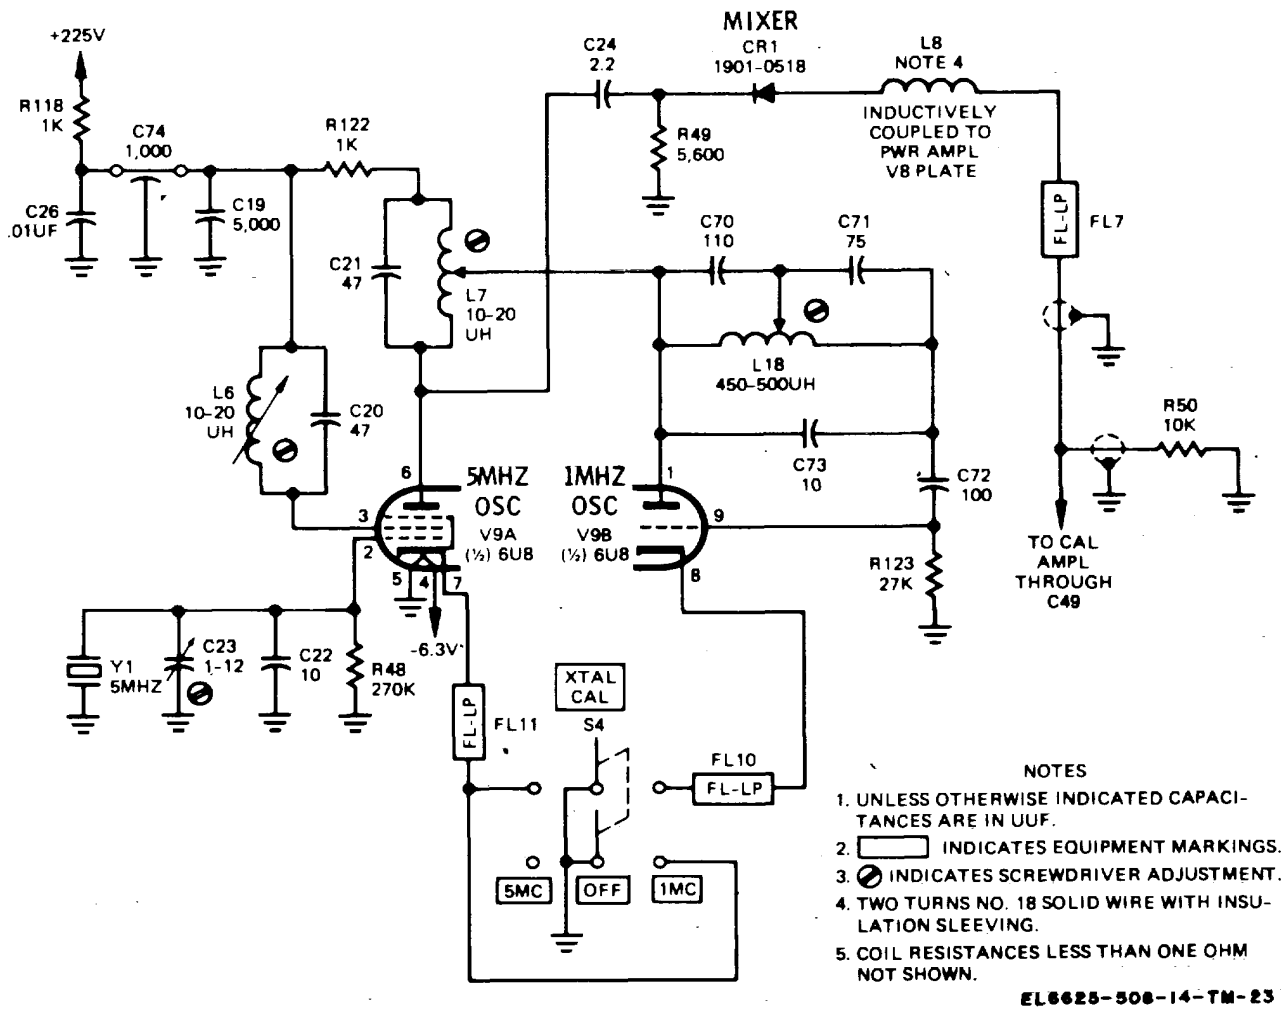

Figure 5-14. Calibrator-oscillator circuit, schematic diagram.
a. The calibrator-oscillator circuit (fig. 5-14) consists of oscillators V9A, V9B, mixer CR1, and associated circuitry.
(1) The 5-MHz oscillator is inoperative until XTAL CAL switch, S4, is set to either the 5 MC position or the 1 MC position. In either position, the cathode is connected to ground.
(2) Capacitor C23 fine-tunes the frequency to exactly 5-MHz. The screen circuit is also exactly tune